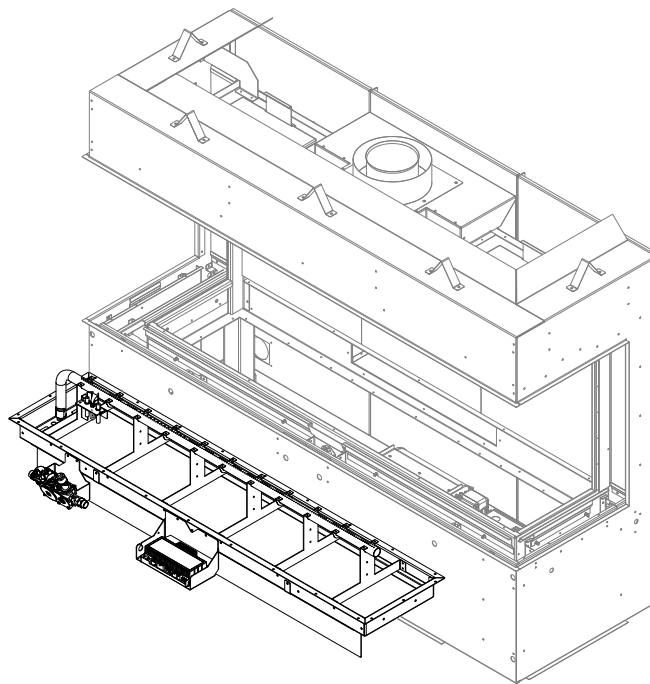

Figure 4.20 - Remove Control Board
6. Remove the (24) sheet metal screws securing the control board to the bottom of the firebox. Figure 4.20.
7. Start by pulling up and out the control board. As you lift the board up you will have to tilt the control board towards you so the valve and module pivot into the opening. Lift the control board up to gain access to under the control board. Figure 4.20.